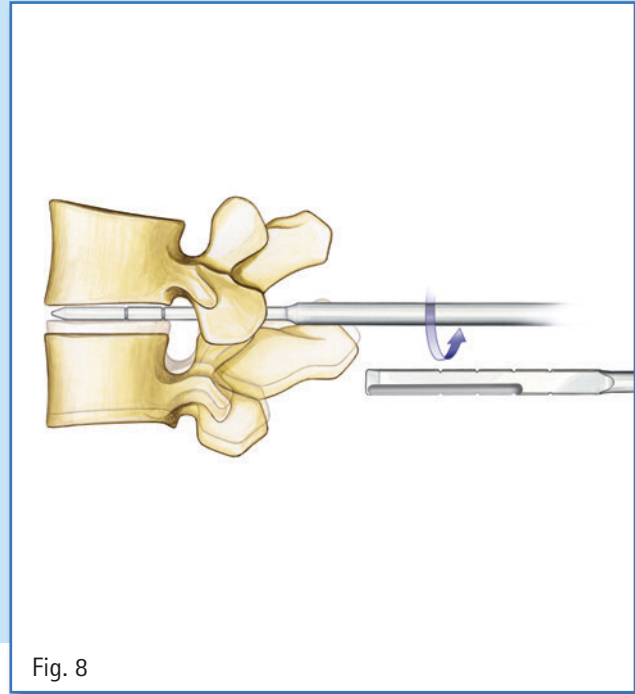

Fig. 8
8. Restoration of disc height (Fig. 8)